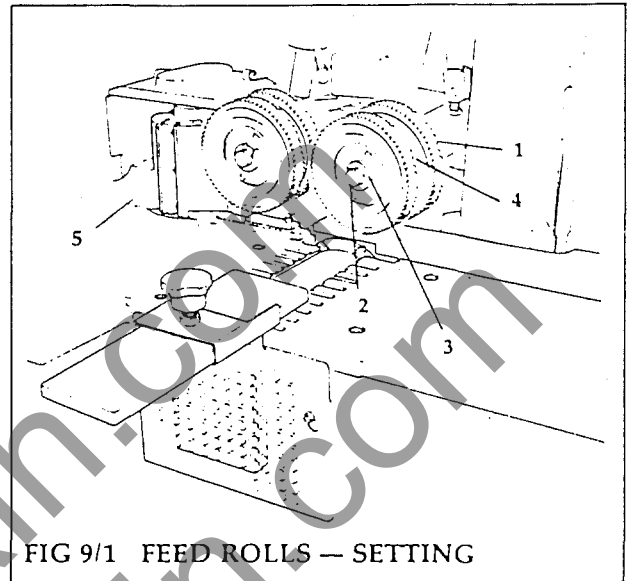
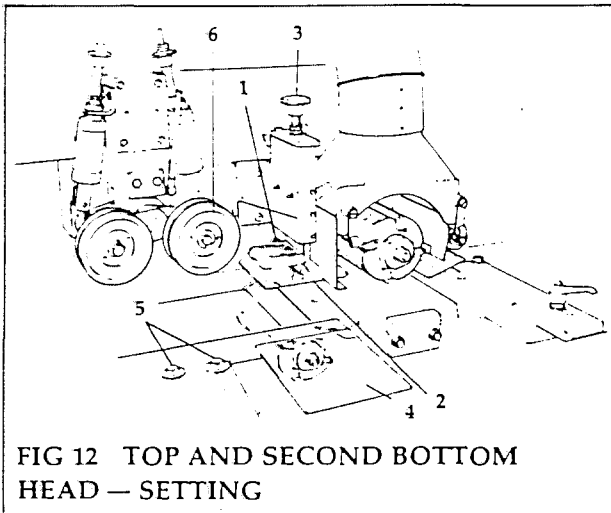
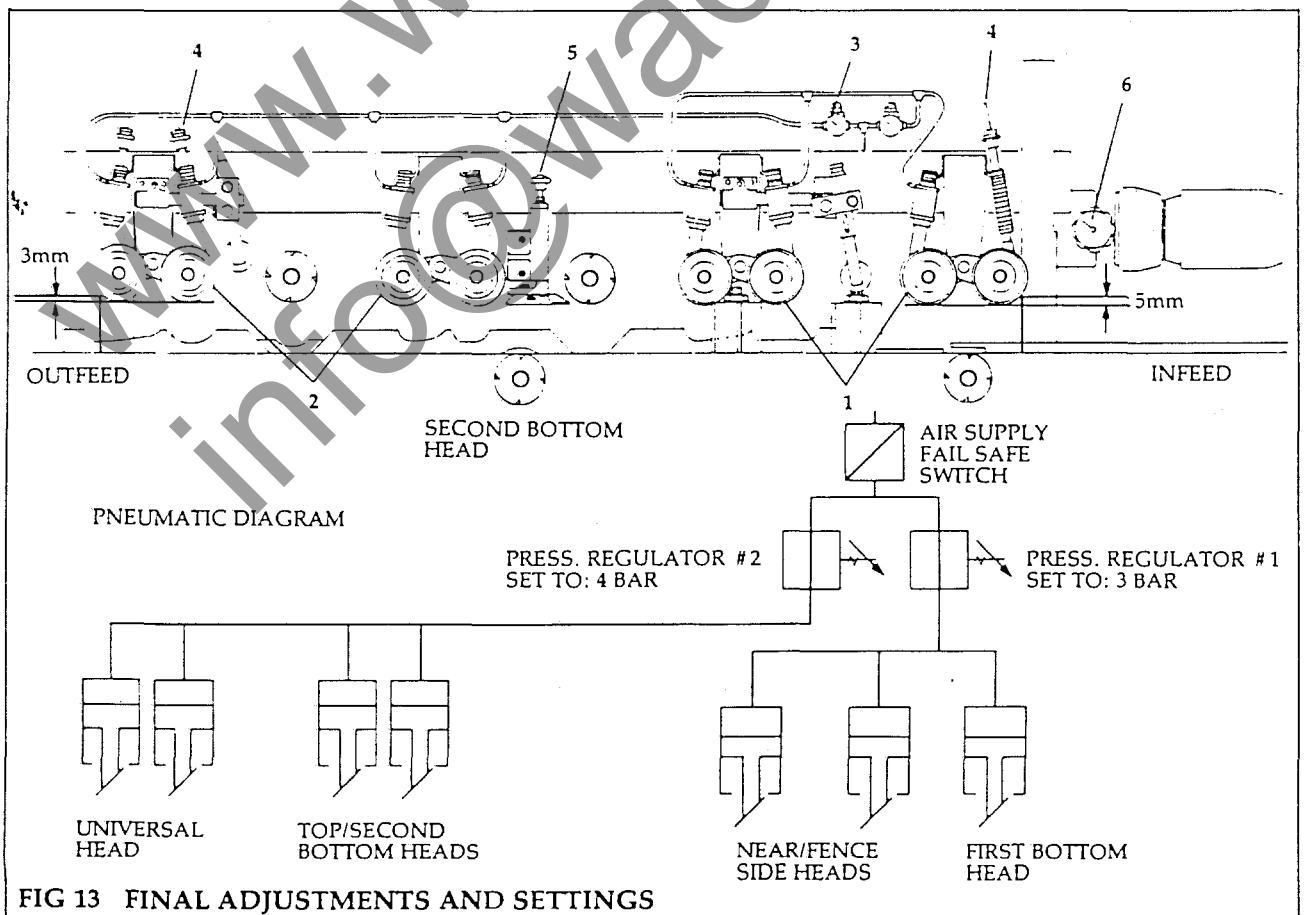

FIG 9/1 FEED ROLLS — SETTING
FIG 12 TOP AND SECOND BOTTOM HEAD — SETTING
FIG 13 FINAL ADJUSTMENTS AND SETTINGS
- (1) Set the feed rolls (1) to suit width and thickness of timber, ie: width of rolls to be as width of timber.
**NOTE:** To achieve maximum traction on wide timber, it may be advisable to space rolls apart, rather than having a solid bank of feed rolls (see Fig. 9/2).
- a. Slacken centre screw (2), using a 10mm hexagon spanner.
- b. Remove 'C' washer (3), add or remove rolls, or spacers (4), to suit width of stock (Fig 9/2), ensuring that each roll drive pin engages with its mating part.
- c. Refit 'C' washer (3) and retighten centre screw (2).
- (2) Set feed roll height 5mm lower than thinnest workpiece. Set outfeed rolls 3mm (see Fig 13).
- (3) When set up, inch timber through the machine up to the fence side cutter (5) and switch off.
- (1) Check the setting of the chipbreaker (1) adjacent to the near side head. Reset if necessary, using locking handle (2) to release slide bar (3). Retighten locking handle (2).
- (2) Inch timber through machine up to top cutter.
- (3) Release locking handle (4) and set side guide (5) after near side head, to the timber width as machined. Refasten locking handle (4).
**Check/Adjust at Top and Second Bottom Head (Fig 12)**
- (1) Inch timber through all spindles and stop with timber over second bottom head. Switch off.
- (2) If necessary, reset pressure pad after top head to new dimensions of timber as follows:
- a. Loosen two screws (1) then slide pad (2) laterally.
- (3) Adjust pad pressure to timber thickness using starwheel (3).
- (4) Restart and feed timber through machine. Set side guide (4) by slackening screws (5), slide guide laterally to hold timber to rear fence without trapping. Retighten screws.
- (5) Set outfeed rolls (6) height to suit timber (Fig 13 refers).
#### Final Adjustments and Settings (Fig 13)
In this situation the outfeed table is adjusted vertically to the same height as the bedplate after the **Second Bottom Head**, using the handwheel (10). Adjust the feedrolls (20) and roller pressure to suit the thickness of work (see Fig 13).